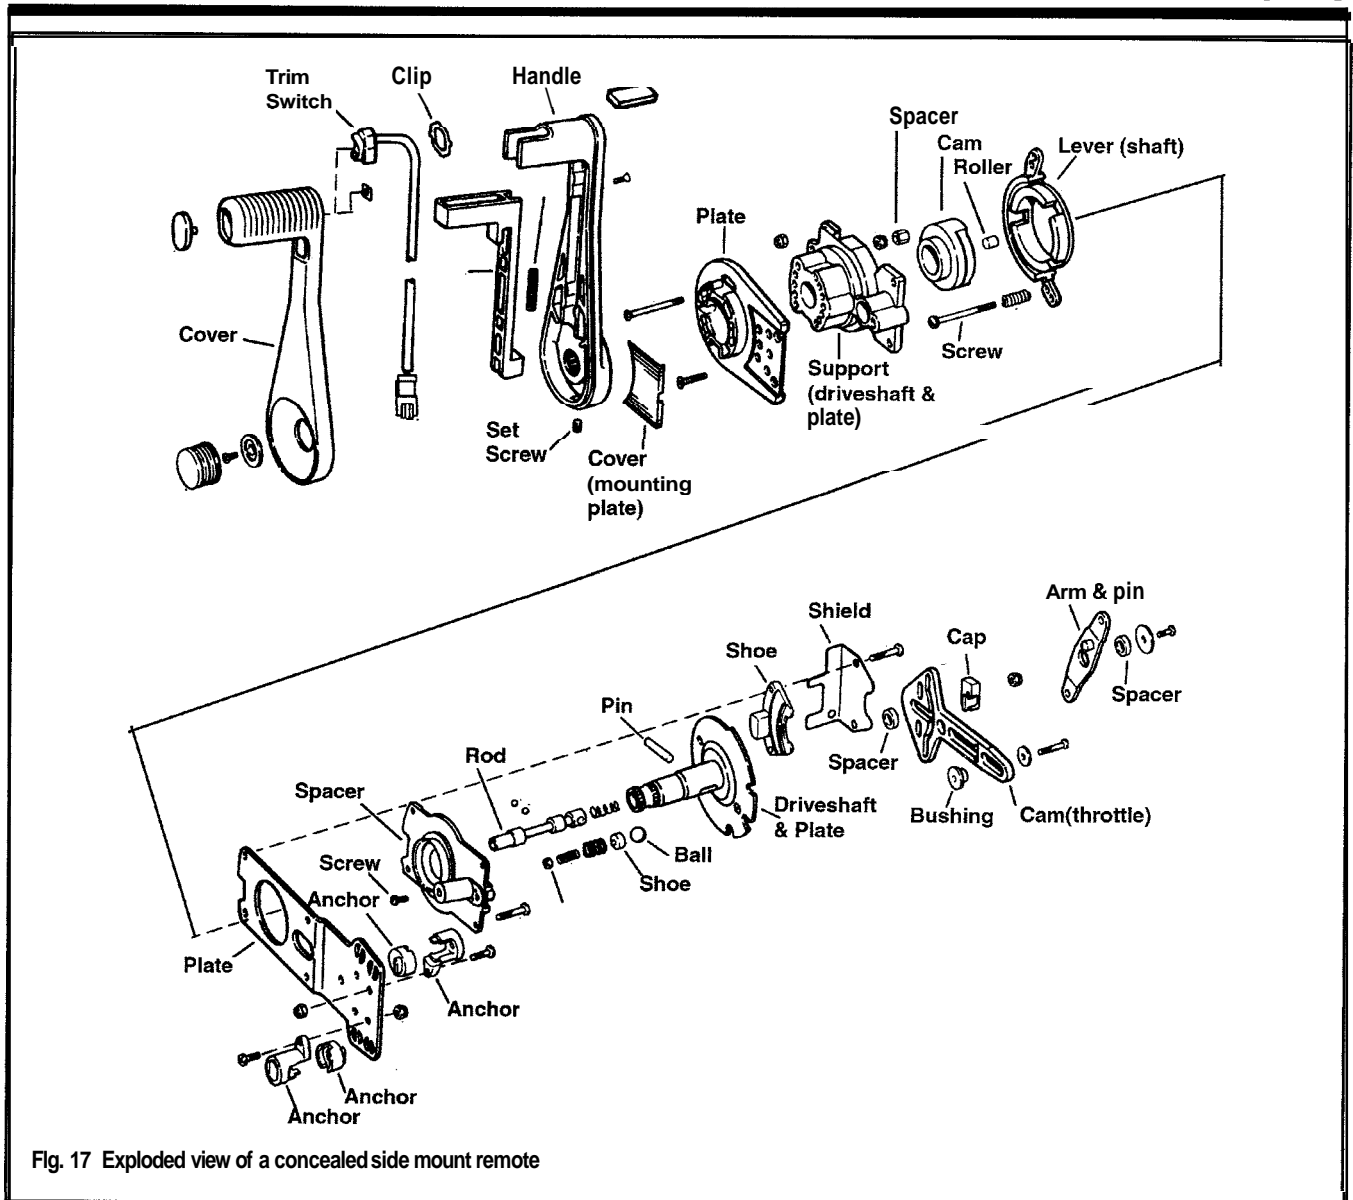

Fig. 17 Exploded view of a concealed side mount remote
- ◆ See Figures 17 and 18
◆ See Figures 17 and 18